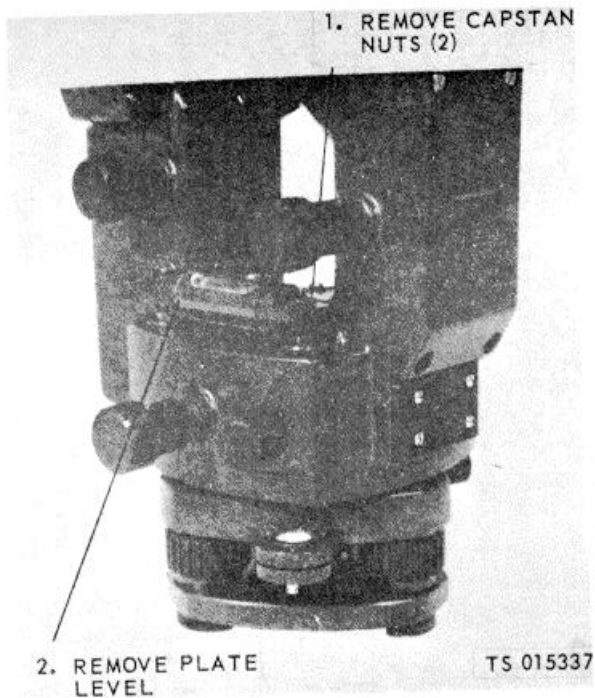

Figure 5-4. Plate level, removal and installation.
a. Removal. Refer to figure 5-4 and remove plate level.